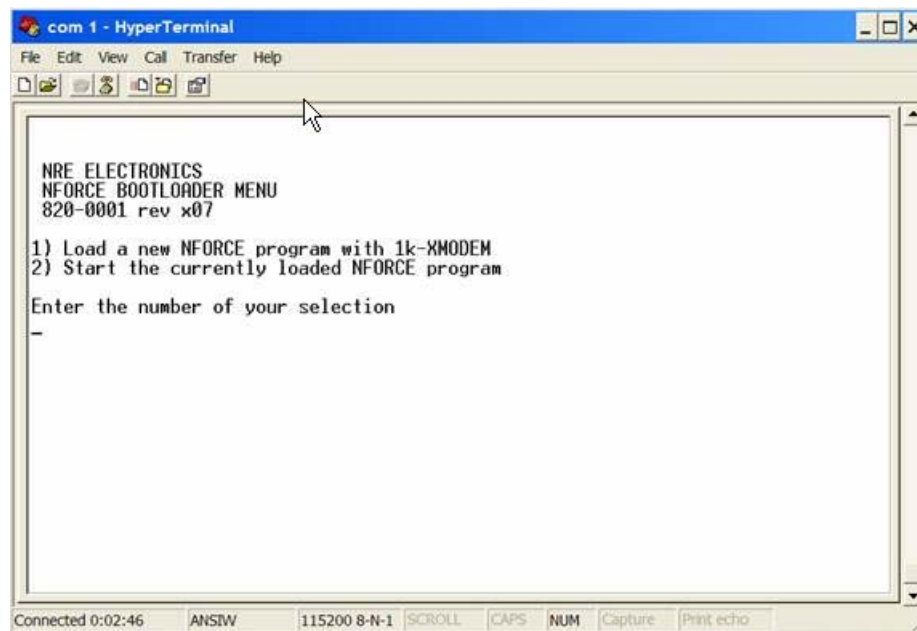

Figure 6-23 – Bootloader Menu
- The *NFORCE* system will reset and run the bootloader. Press 'L' on your laptop keyboard to bring up the bootloader menu (Figure 6-23):